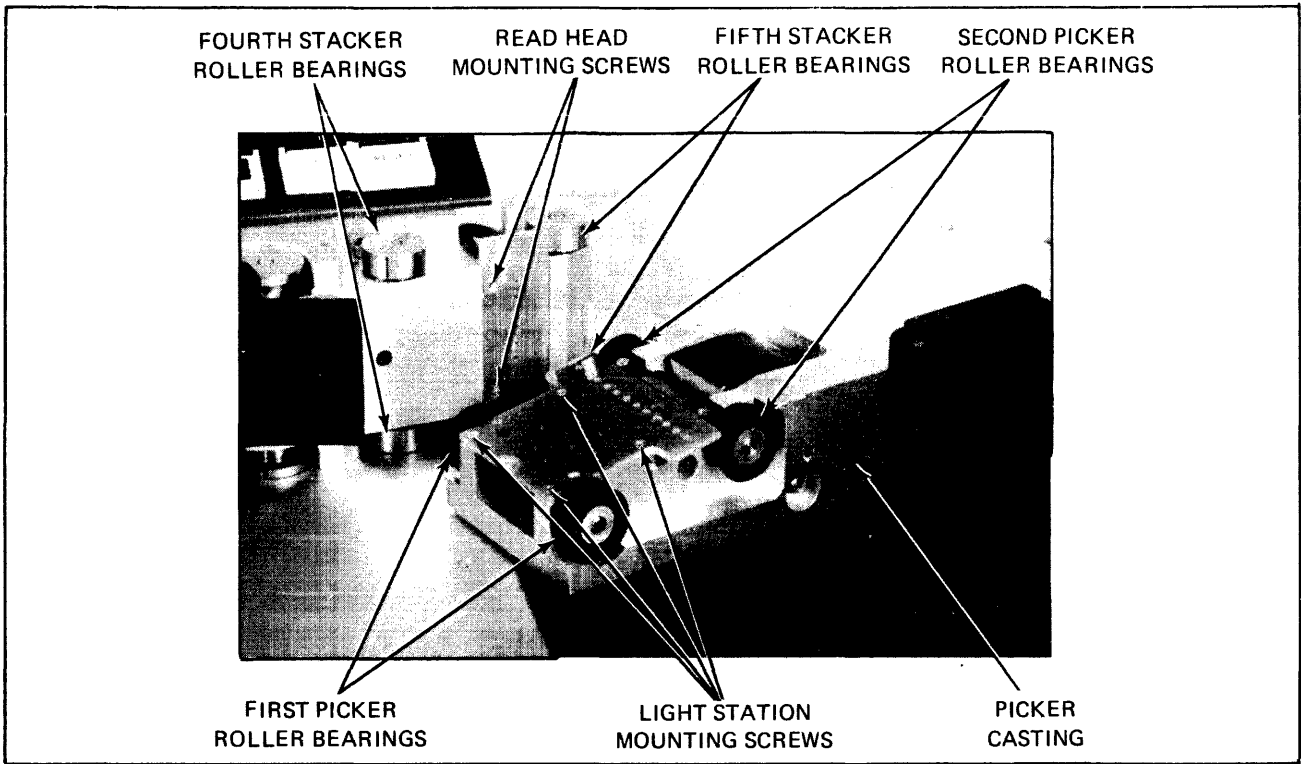

Figure 9-16. Pick Support Casting Removed From Reader.
16. Lift picker casting straight up and lay on chassis, Figure 9-16.